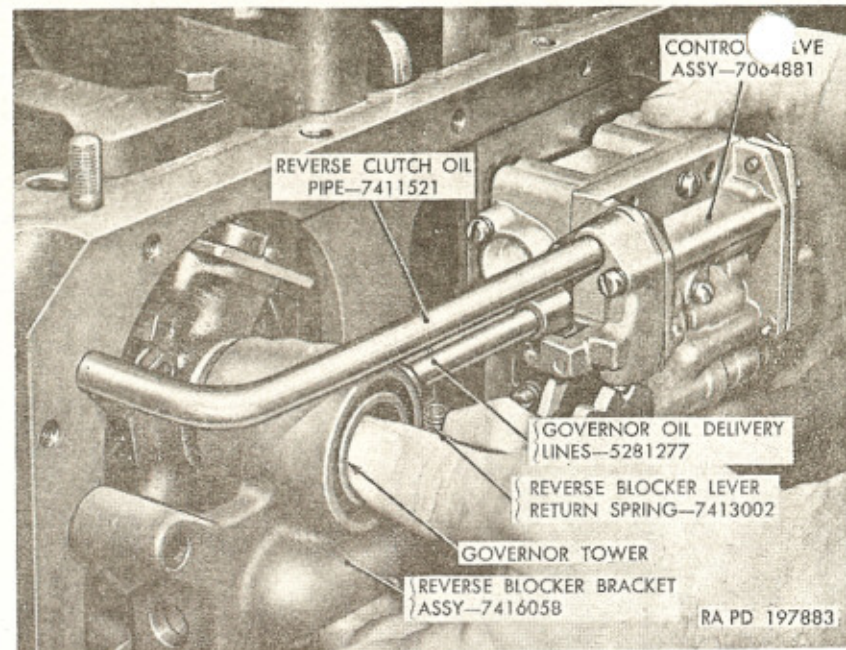

Figure 35. Removing or installing transmission control valve assembly.
d. Pull valve body and reverse blocker bracket (fig. 35) about one-eighth inch away from transmission case so valve inner body will not be damaged during removal. It may be necessary to lightly tap reverse clutch oil pipe gradually out of transmission case as valve body moves away from case.
e. Slide control valve assembly toward front of transmission; then remove control valve assembly. Governor oil delivery lines may stay with reverse blocker bracket assembly or control valve assembly. Remove the three governor oil delivery lines. Remove reverse blocker lever return spring. Remove reverse clutch oil pipe. Slide reverse blocker bracket assembly (fig. 35) off governor tower.